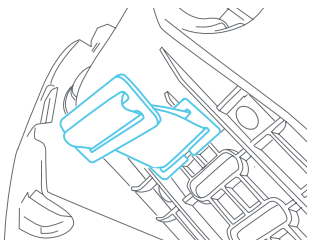

Fig. 33-3
3. View from underside. Pull slack as needed (Fig. 33-3)